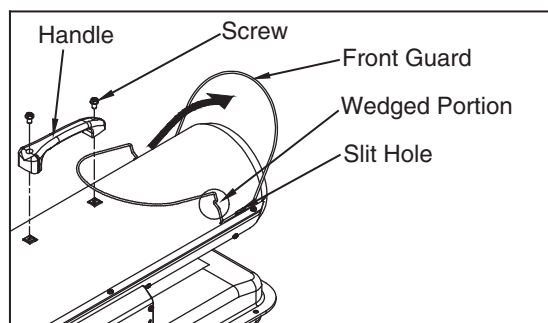

Figure 6. Assembling Handle
2. Align the holes in the upper housing with two mounting holes on the handle as shown in Figure 6.